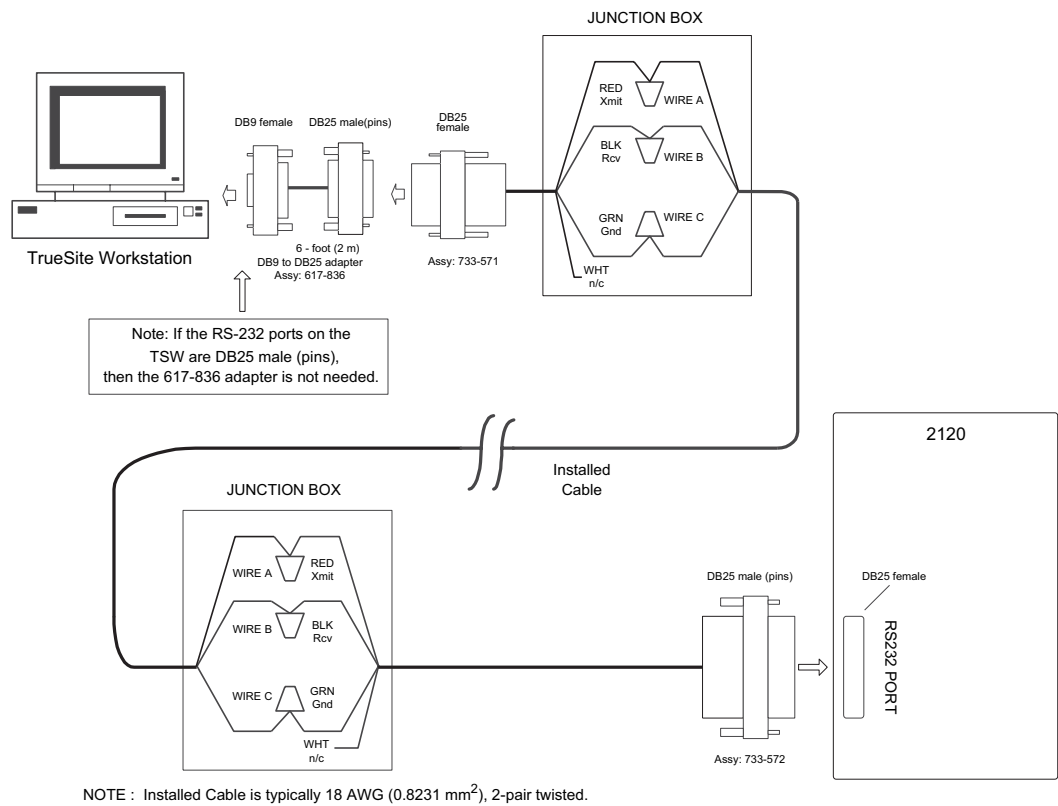

Figure 5-5 Connecting 2120 Nodes to the TrueSite Workstation
Table 5-1 lists the required cable and connectors to complete the installation. Figure 5-5 shows a diagram of how to connect the cables and connectors from the RS232 port on each 2120 node to the RS232 connector on the CPU.
- If you are connecting the 2120 to the TrueSite Workstation with an adapter cable (using DB9 connector), refer to the diagram in Figure 5-5 for detail.